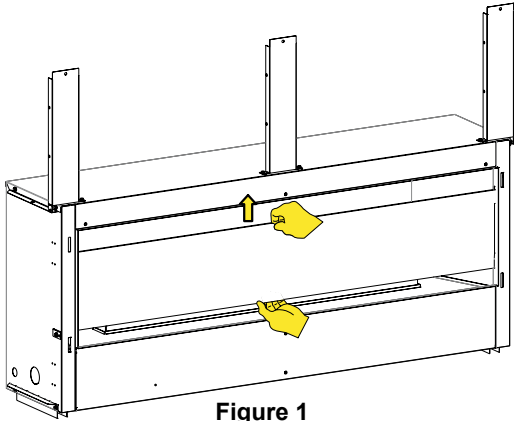

Figure 1
1. Remove glass front from fireplace by lifting the glass front up, sliding it to the right, and then carefully angling left side out of the slots. See Figures 1 - 4.